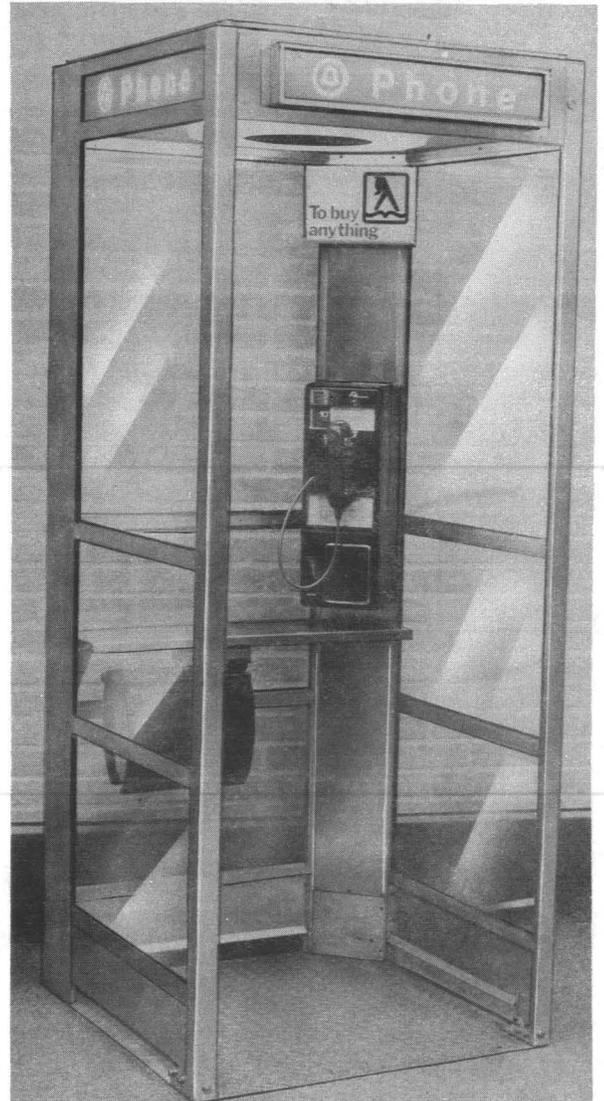

Fig. 1—KS-21716 Booth
2.01 The KS-21716 booth (Fig. 1) is an indoor-outdoor aluminum and glass telephone booth designed for single or multiple side-by-side installations. It is available in polished aluminum (List 60).